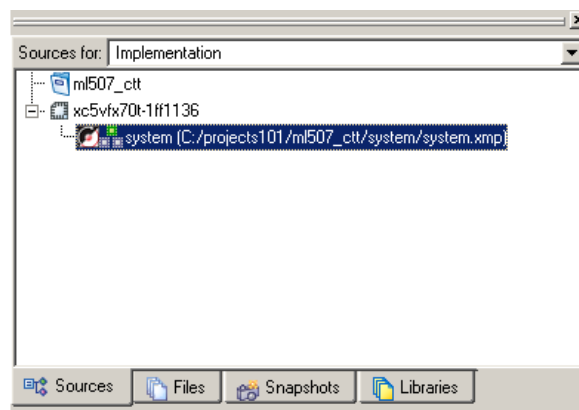

Figure 5-7: Relaunching XPS from the ISE Project Navigator
3. Close XPS (File/Exit) and relaunch XPS with your original system from the ISE Project Navigator by double-clicking on the XPS icon in the Sources Window (Figure 5-7).